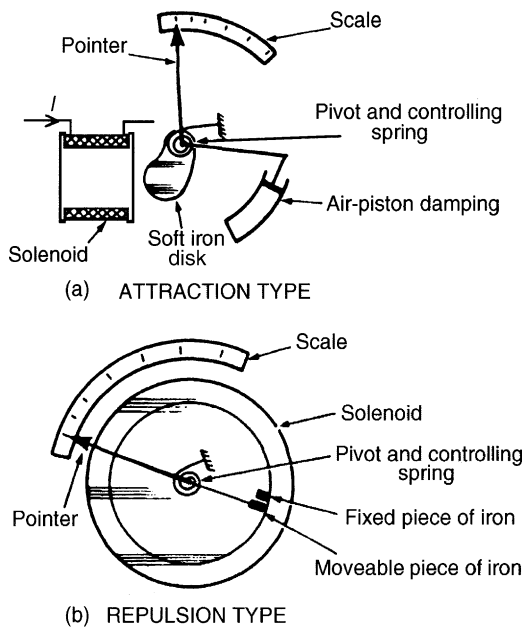

Figure 10.2
- An **attraction type** of moving-iron instrument is shown diagrammatically in Fig. 10.2(a). When current flows in the solenoid, a pivoted soft-iron
- (b) In the **repulsion type** moving-iron instrument shown diagrammatically in Fig. 10.2(b), two pieces of iron are placed inside the solenoid, one being fixed, and the other attached to the spindle carrying the pointer. When current passes through the solenoid, the two pieces of iron are magnetized in the same direction and therefore repel each other. The pointer thus moves across the scale. The force moving the pointer is, in each type, proportional to I^2 and because of this the direction of current does not matter. The moving-iron instrument can be used on d.c. or a.c.; the scale, however, is non-linear.